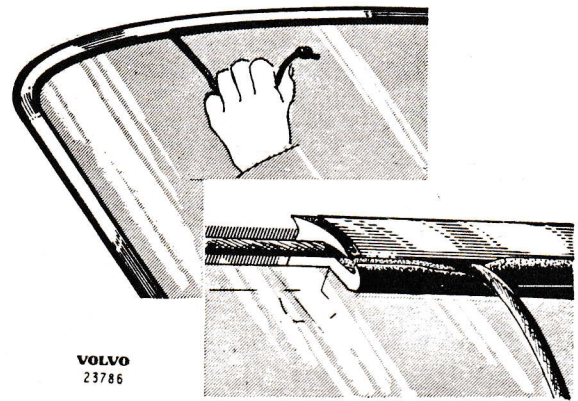

Fig. 33. Fitting garnish molding.
2. Push the ridge in the garnish molding and then pull out the cord whereby the edges of the rubber molding creep up over the edge of the garnish molding. See Fig. 33.